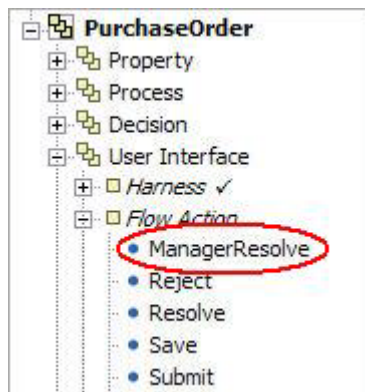

Figure 4-1. ManagerResolve Flow Action Rule
- d. Click the ManagerResolve link (Figure 4-1). The ManagerResolve flow action rule appears.